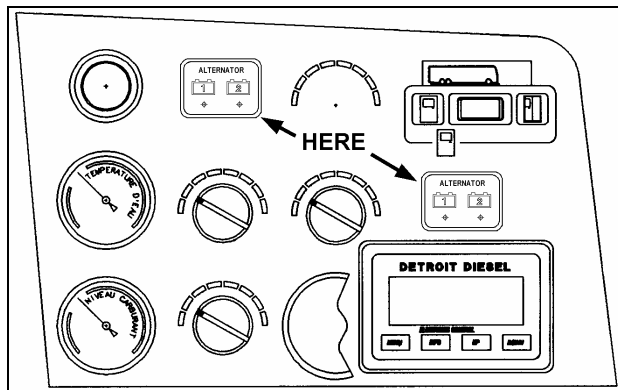

FIGURE 8: INSTALLATION OF DECAL ON R.H. SIDE PANEL
3. Choose best position (refer to figures 8 and 9) and affix new decal (Prévost #065524);